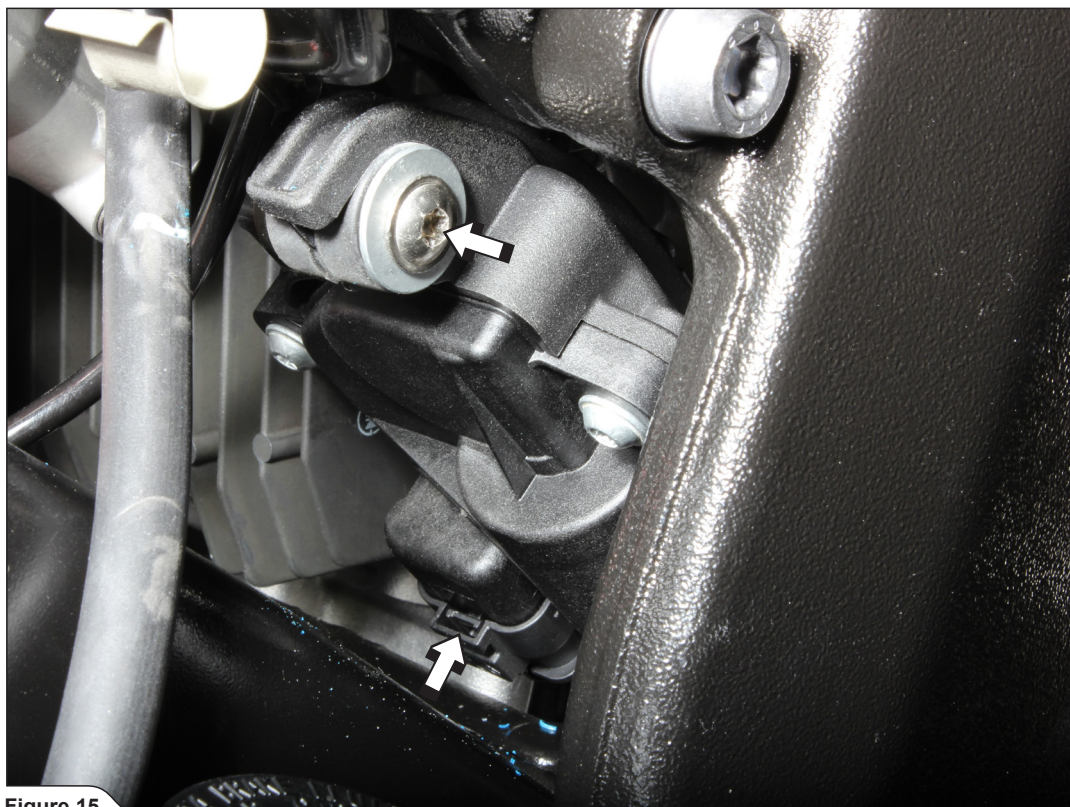

Figure 15
13. Unscrew the rear exhaust valve's servo motor, undo the electrical connector and carefully remove the servo motor with cables off the motorcycle (Figure 15, 16).